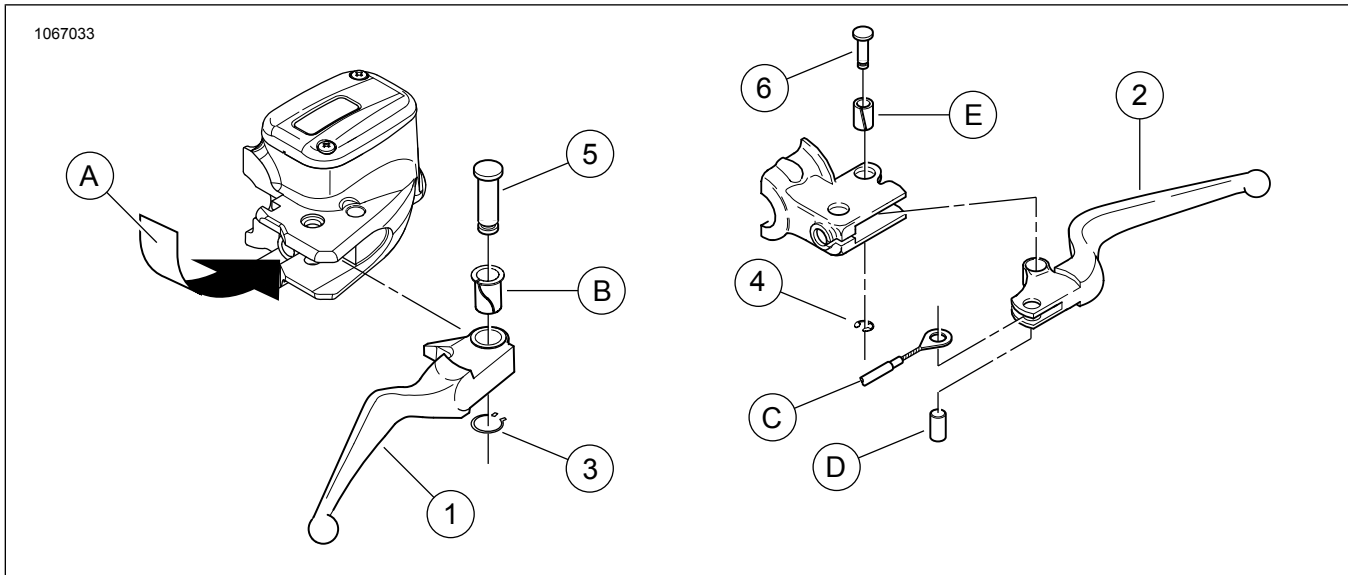

Figure 1. Service Parts: Hand Lever Kits
See Figure 1 and Table 1.
1. See the Figure 1 and the service manual. Remove the retaining ring (3) from the groove in the pivot pin (5) and discard retaining ring.
2. Remove and discard the pivot pin (5), original equipment brake lever (1) and pivot lever bushing (B).